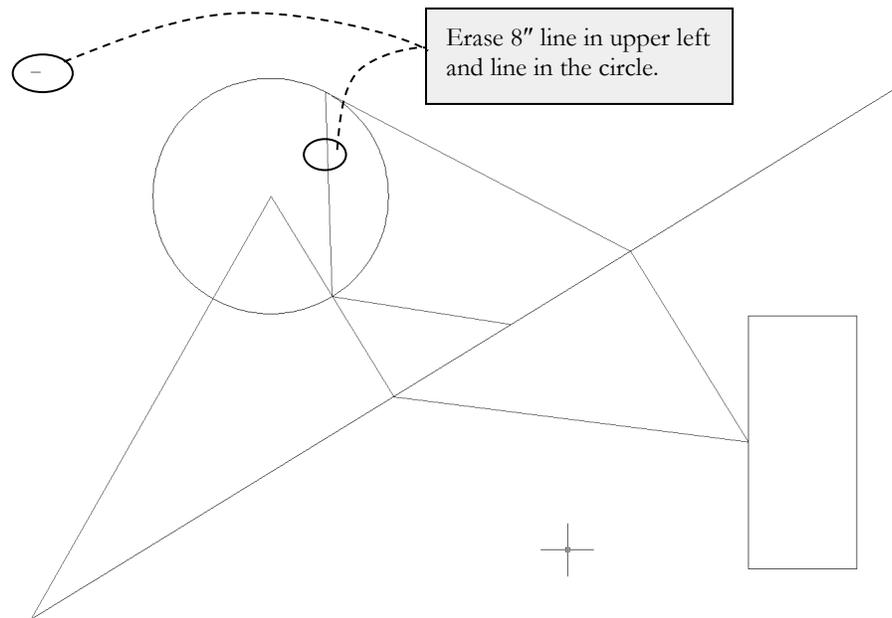

FIGURE 3-3.2 Lines to be erased
3. While holding the **Ctrl** key, select the lines identified in **Figure 3-3.2**.
***TIP:** See the section below Figure 3-3.2 on *Selecting Entities*.*